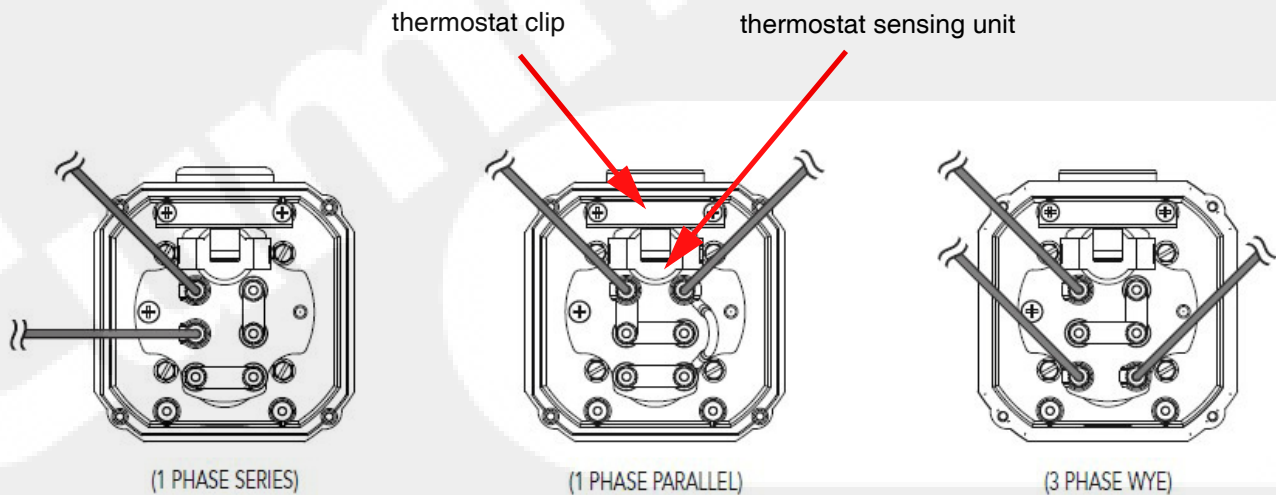

Figure 7-46 GenSet lube oil heater element plate
5. As shown in Figure 7-46, loosen the thermostat clip.
5. As shown in Figure 7-46, loosen the thermostat clip and note the position of the thermostat sensing unit.